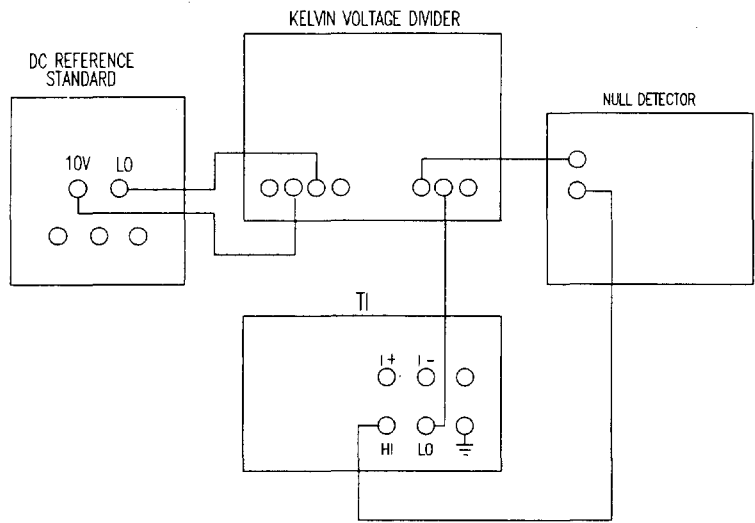

Figure 3.
- 4.2.35 Connect the equipment as shown in Figure 3.